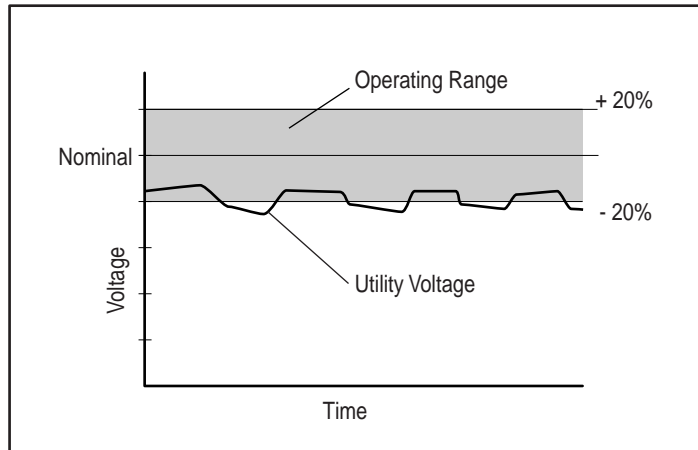

Figure 4-5. Utility voltage fluctuation indicating a shift in nominal voltage range may be necessary
- If the utility voltage differs from the currently configured nominal voltage, but stays within a  $\pm 20\%$  band (see Fig 4-5), consider shifting the nominal voltage parameter selection to match the measured utility voltage range.